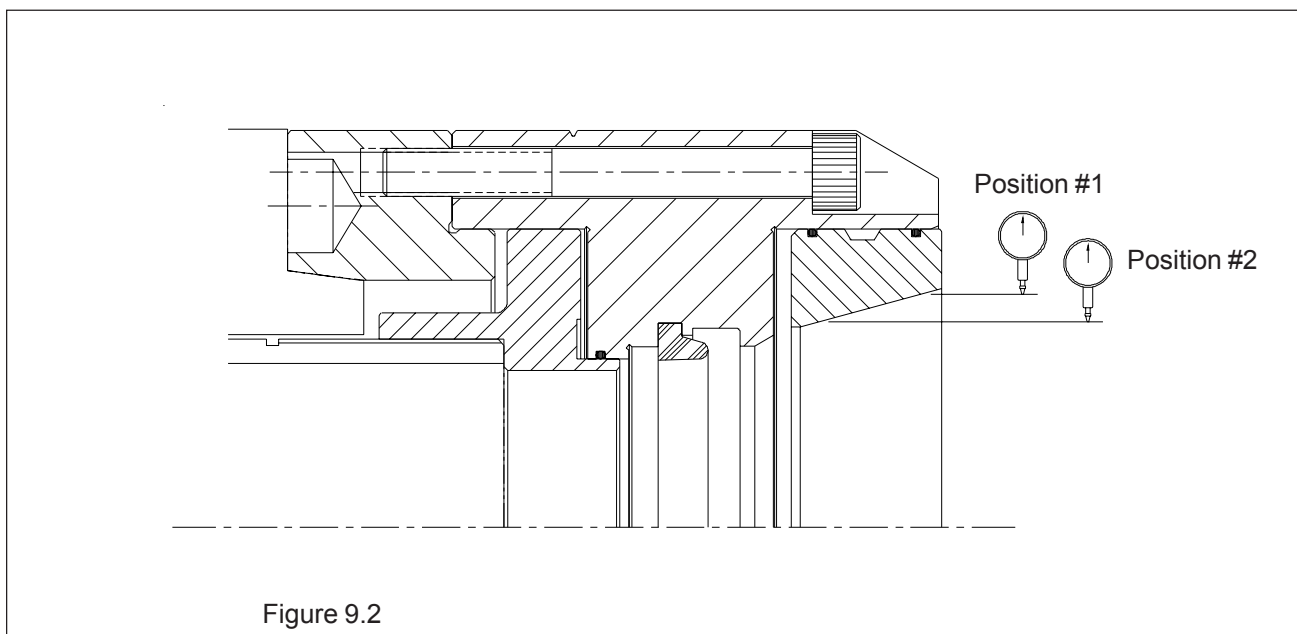
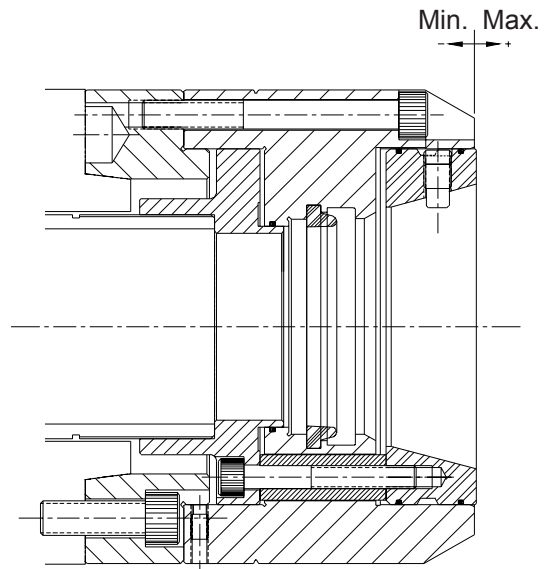

Figure 9.2
Figure 9.3
2. Make certain that the mounting surfaces of the chuck body and adapter plate are clean and free of nicks or burrs that could prevent the proper seating of the chuck body. Also make sure the (4) radial adjusting screws are not protruding into the locating diameter of the chuck body.
6. Indicate the ID runout of the collet taper as shown in position #1 in figure 9.2. Make adjustments to the (4) radial adjusting screws so that the runout of the collet taper is within .0002" (0.005mm).
7. Before tightening the mounting bolts, measure the runout of the collet taper on position #2 in figure 9.2. If the chuck body is properly seated on the adapter plate, the runout measured on position #2 should be the same as position #1. If the runout measured in position #2 exceeds the runout of position #1 by more than .0001" (0.0025mm), remove the chuck body from the adapter plate and repeat this mounting procedure.
8. After the runout of the collet taper has been adjusted, tighten the mounting bolts to the torque specifications given on page 7. Also make sure to tighten all (4) radial adjusting screws.
9. Actuate the draw tube to verify that the chuck is functioning correctly by measuring the stroke of tapered sleeve as shown in figure 9.3.